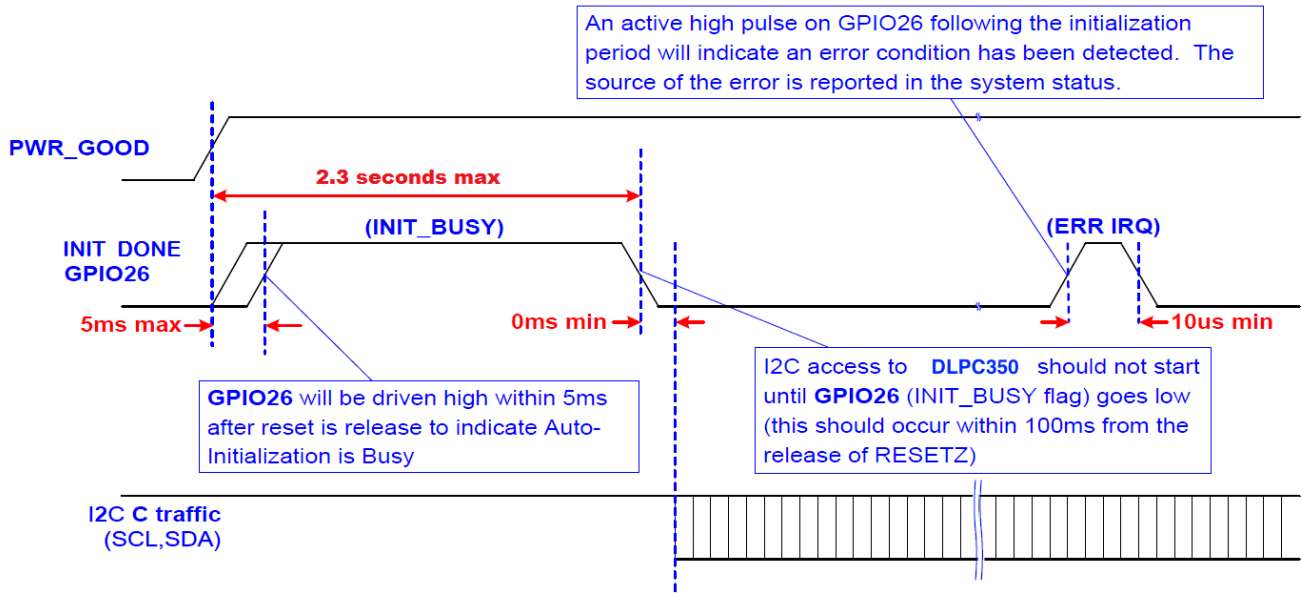

Figure 23. Internal Memory Test Diagram
- After the clocks are configured, an internal memory test is performed. See Figure 23 and note that GPIO26 is the INIT\_DONE signal.